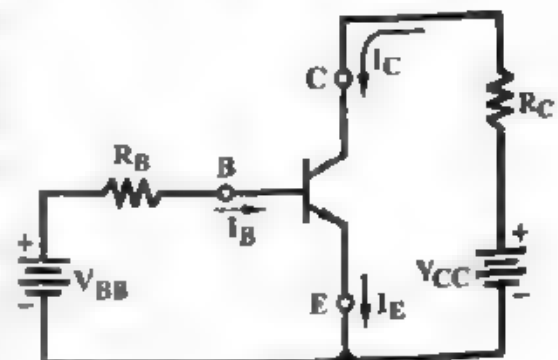

Fig. 5.63
(ii) **Common-emitter (CE) Configuration** – In this configuration, the transistor is connected with the emitter as a common terminal as shown in fig. 5.63.